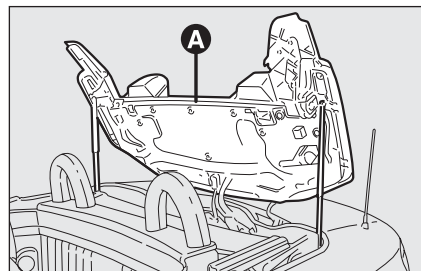
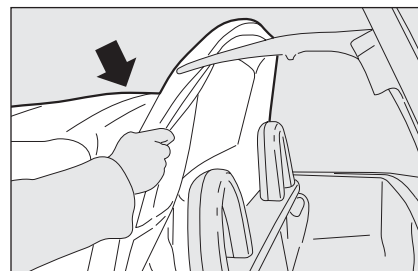

fig. 68
fig. 72
- ☐ close the trunk and then open the top cover manually **A**-fig. 68. Make sure that to open the top cover while it turns does not damage the centre space of the trunk. If there is a risk of collision give a strong push downwards on the trunk door in the are of possible contact in order to allow it to turn;
- ❑ lift the bow of the top slightly **fig. 72** and then lower the cover of the top **A-fig. 68**;